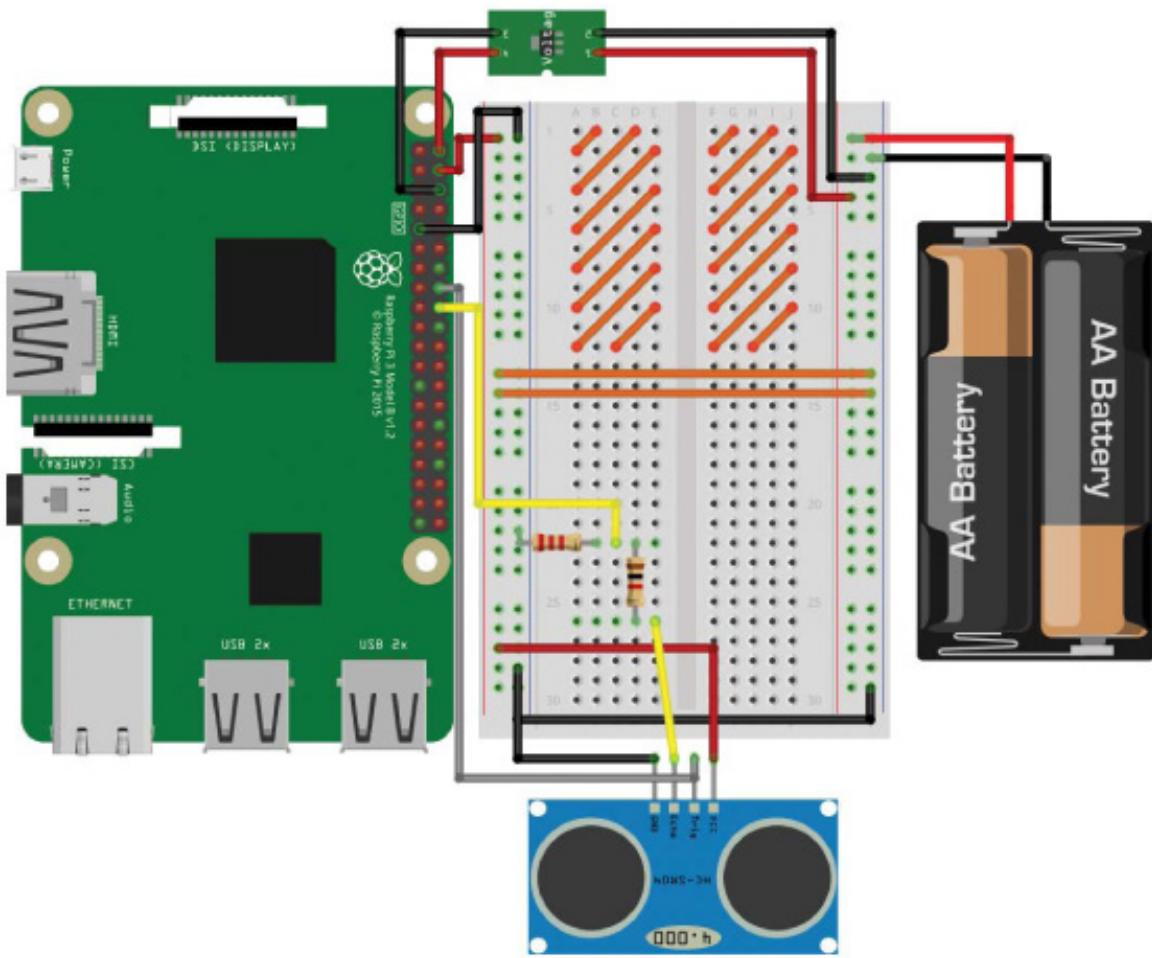

FIGURE 5-7 The completed breadboard diagram with the HC-SR04 and voltage divider in place
6. Finally, place one leg of your $2\text{ k}\Omega/2.2\text{ k}\Omega$ resistor in the row with the $1\text{ k}\Omega$ resistor and jumper-wire to your Pi's BCM 24 pin, and place the other leg of this resistor in a ground rail. The complete circuit on your breadboard should look something like Figure 5-7.